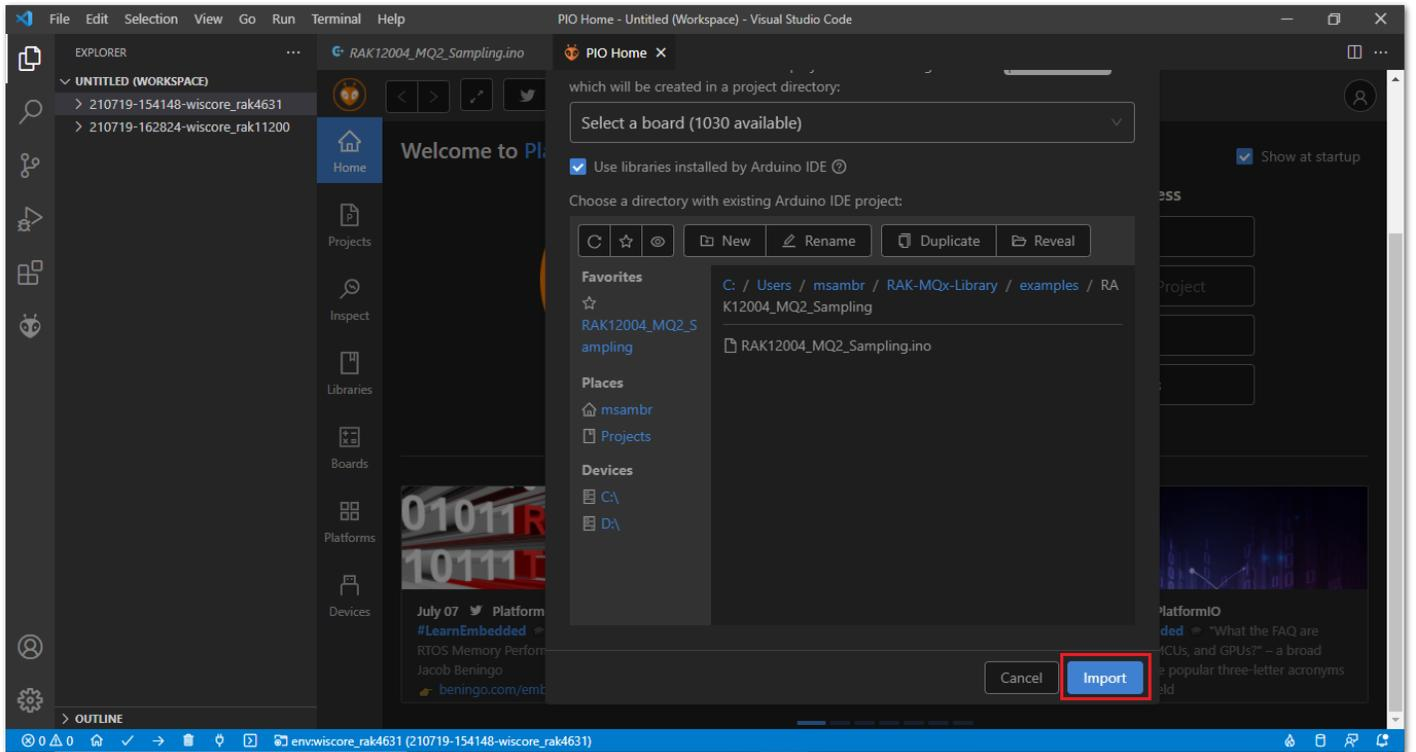

Figure 20: Select Board and check Import libraries
15. To finish the import, click on the **Import** button, as shown in Figure 20.